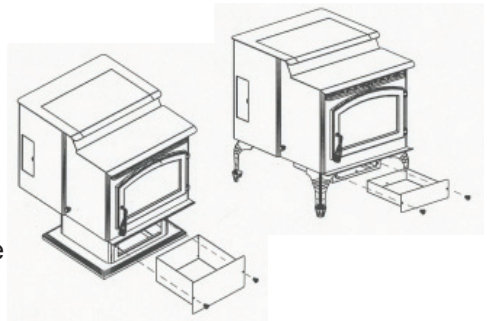

FIGURE 25
- Scrape ash in firebox into the pedestal ash bin through the opening in the bottom of the firebox or vacuum to remove ashes (see Figure 25).